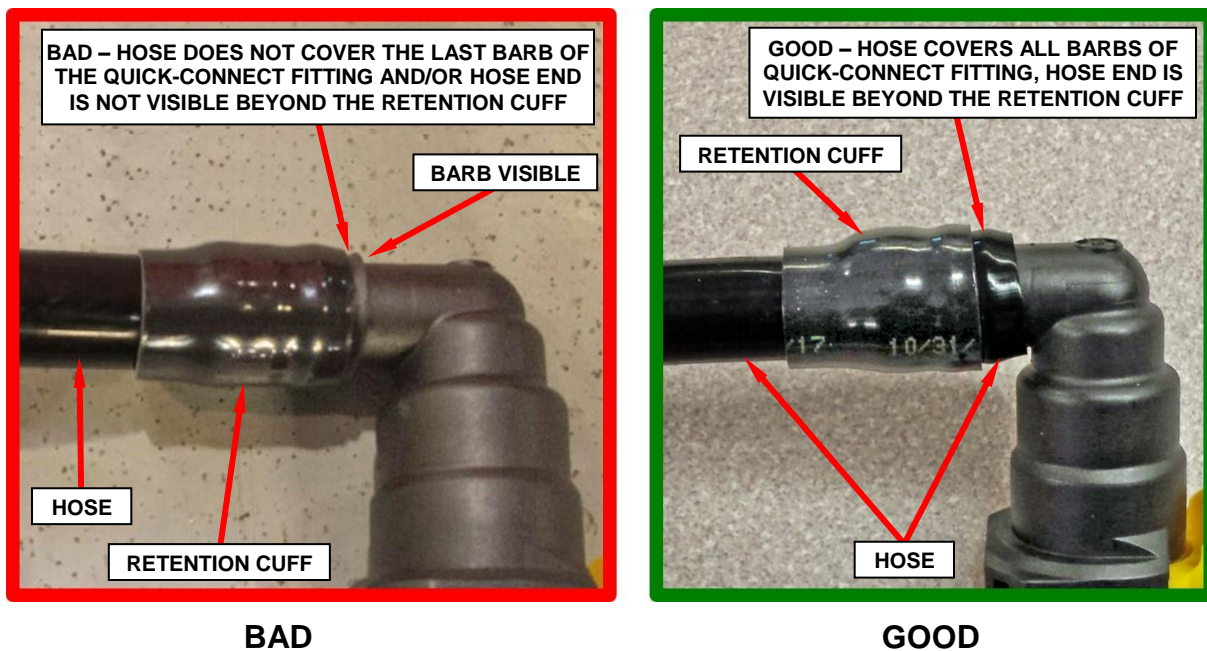

Figure 3 – Fuel Supply Jumper Tube – Inspect Hose Connection
4. Inspect the fuel supply jumper tube connection between the hose and quick-connect fitting. The hose must cover all the barbs on the quick connect fitting and hose end must be visible beyond the edge of the retention cuff. If the hose does not cover all barbs and/or is not visible beyond the edge of the retention cuff, then the fuel supply jumper tube must be replaced (Figure 3).